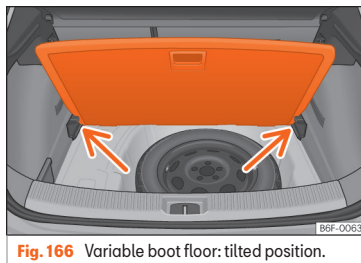

Fig. 166 Variable boot floor: tilted position.
- Lift the variable floor in the high position using handle ①, pull it up and push it towards the backrest of the rear seats until the floor folds along the hinge line and the movable part of the floor is resting on itself.
- Rest the floor on its housings »» Fig. 166 (arrows).